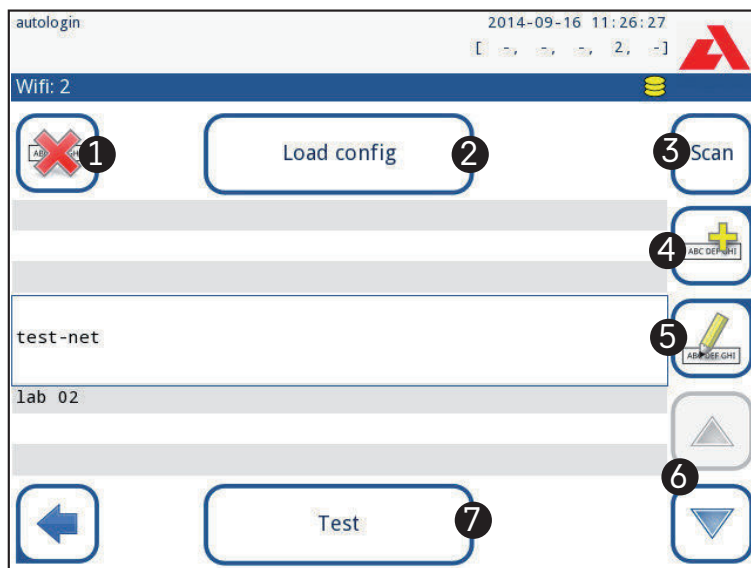

Figure 48: The Wi-Fi screen (available from the Ethernet configuration screen)
2. Tap the **Scan** button. The system displays all the networks that are within range, listed by descending signal strength. Use the **Up** and **Down** arrow buttons (numbered 6 in Figure 48) to position the cursor over the network and tap the **Add element** button (numbered 4 in Figure 48). On the keyboard screen that is displayed, enter the Password for the selected network, and tap **OK**.
3. Tap the **Scan** button once again to toggle it off. Use the **Up** and **Down** arrow buttons (numbered 6 in Figure 48) to position the cursor over the network and tap the **Test** but-
2. Tap the **Add element** button (numbered 4 in Figure 48). On the keyboard screen that is displayed, enter the ESSID (the name), and then the Password for the new wireless network.
3. Use the **Up** and **Down** arrow buttons (numbered 6 in Figure 48) to position the cursor over the network and tap the **Test** button (numbered 7 in Figure 48). A status text will be displayed below the name of the network. When the status text is **COMPLETE**, the analyzer is connected to the selected wireless network.
4. Tap the **Load config** button (numbered 2 in Figure 48) to load the zipped configuration files from the USB flash drive. The system unzips and saves the files on the USB flash drive in the **/usr/local/WIFI** folder.
2. Use the **Up** and **Down** arrow buttons (numbered 6 in Figure 48) to position the cursor over the network.
3. Tap the **Delete** or the **Edit** button (numbered 1 and 5, respectively, in Figure 48), as necessary. Follow the instructions and messages that are displayed.